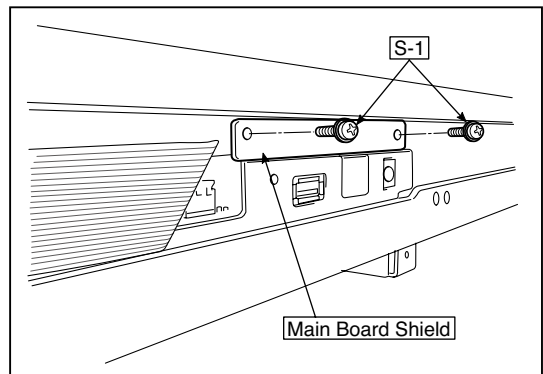

Fig.2
- 2.Remove the "S-1" screws shown in the figure 2 and then remove the Main Board Shield.